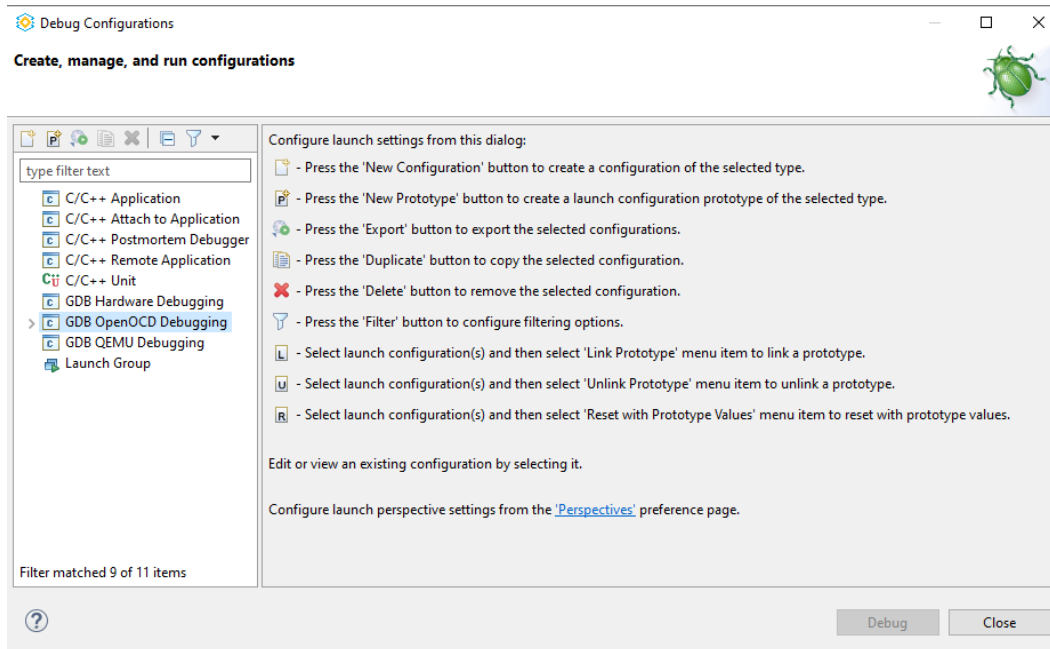

Figure 3.6. Create OpenOCD Debug Configuration
- b. Select **GDB OpenOCD Debugging** from list on the left, and double-click on it as shown in Figure 3.6.